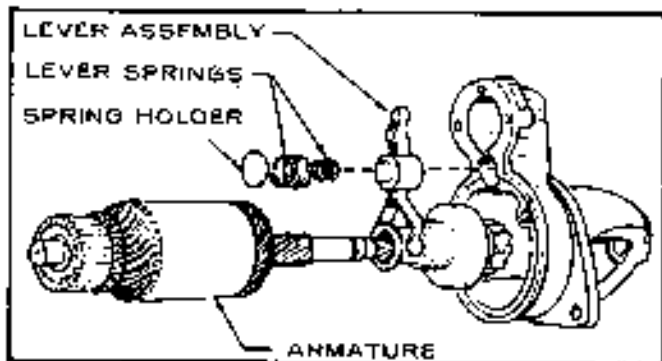

FIGURE 18-10. REMOVING THE ARMATURE
- 4 On the solenoid shift units remove the armature from the front bracket. Be careful not to miss the small steel washer used in the end of the armature shaft. Remove the shift lever at the same time the armature is removed. Remove the spring holder, lever springs and retainer prior to the lever (Figure 18-10).